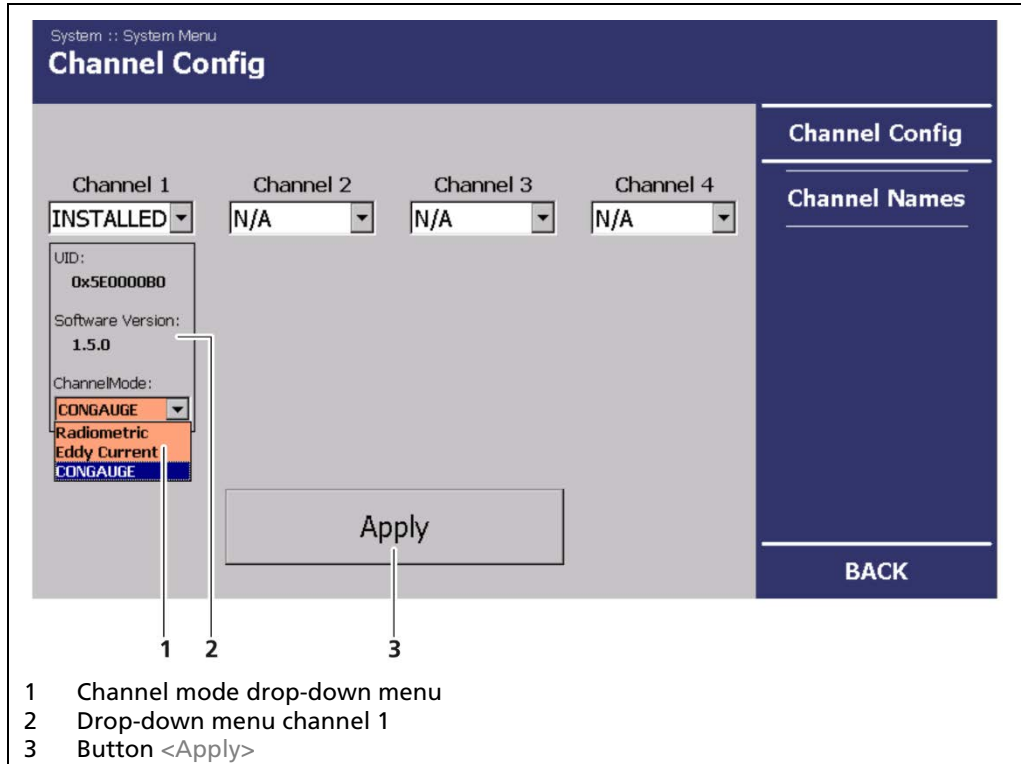

Fig. 7 "Channel Config" menu
- ▶ In the drop-down menu, set the "Channel Mode" (measurement technique) to "CONGAUGE" (Fig. 7, Pos. 1).